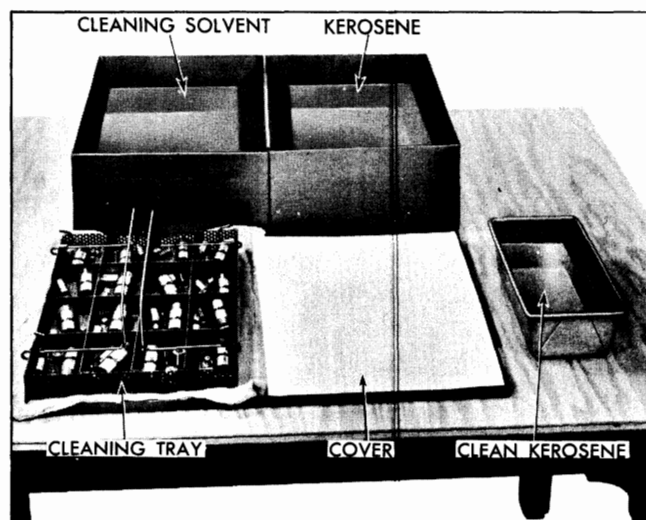

Fig. 6-25 Lifter Wash Tank and Tray J-5821
Wash tank and tray J-5821 (Fig. 6-25) is recommended for cleaning valve lifters. This tank should be used only for valve lifters and should be kept covered when not in use. All servicing should be done in an area removed from grinders or other sources of dust and foreign material.
3. Drain oil out of lifter body and place all valve lifter parts in separate compartment of tray from wash tank J-5821 (Fig. 6-25).
5. Wipe out tank cover and place tray of parts on cover in front of tank (Fig. 6-25). A shop towel under tray and clean paper on remainder of cover will enhance cleanliness.